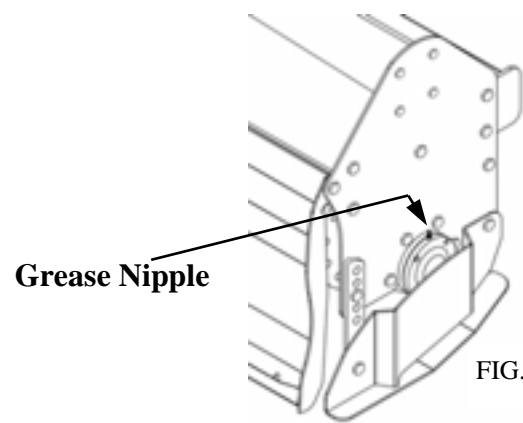

FIG. 2
- Grease the right lateral support of the rotor (see fig. 2) after cleaning correctly the grease nipples for better lubrication. Use lithium type grease NLGI 2